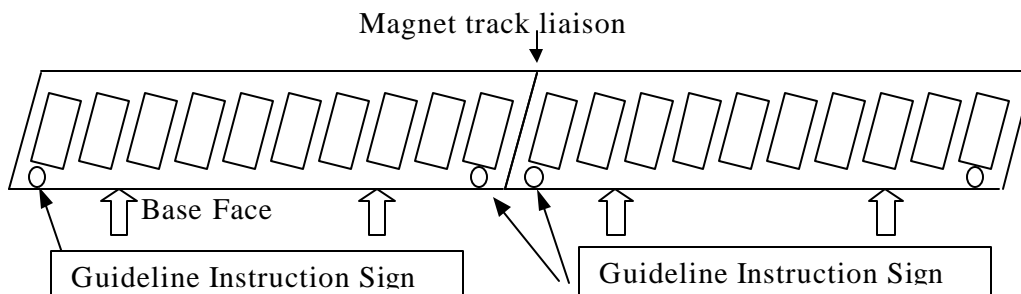

Figure 6
- (1) Detach the dummy board and the corrugated cardboard for the magnetism reduction of the magnet track surface.
- (2) Adjust the guideline instruction sign (Approx. 4) side of the magnet track to a reference planeside of the machine base, and put on the base side. (Refer to Figure 6). Be careful with your fingers.
- The magnet track after the first one is temporarily put on the remote place by 30mm or more on the extension of the first magnet track. The direction of the magnet track must be matched (Guideline instruction sign: (Approx. 4concave). (Refer to Figure 6 on previous page)